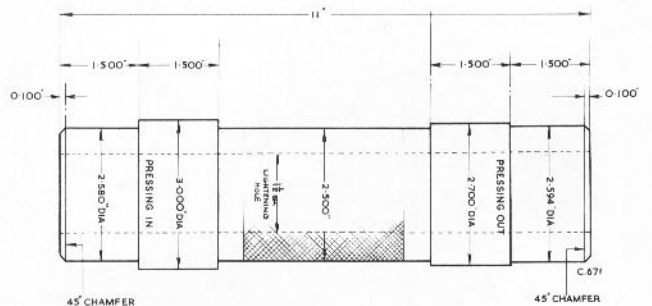
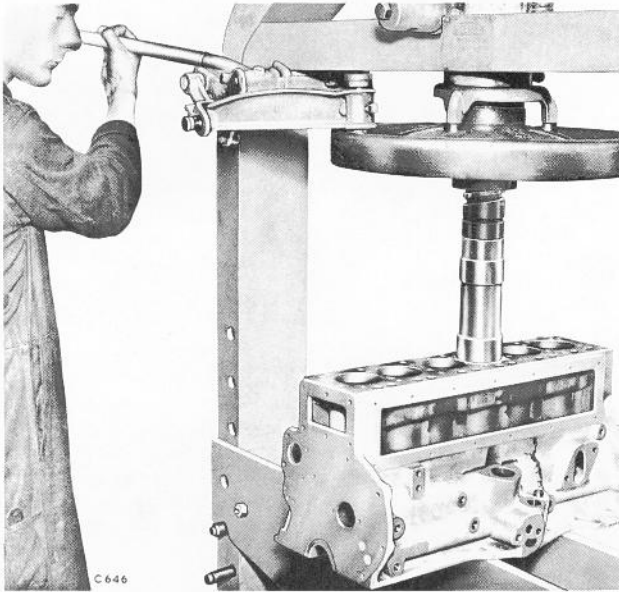

Fig. 9. Spigot for removing liners.
Fig. 10. Removing and refitting cylinder liners.
- (A) Using a hand press only and a special spigot Fig. 9 as illustrated in Fig.10
- (B) By offsetting the bore in boring machine and cutting down the side of the liner until it can be collapsed and taken out. It should be noted that the wall thickness is only approximately .050 inch (1.27 m.m) when new and careful boring is necessary to avoid cutting past the liner into the cylinder block.
Lightly oil the cylinder bore and the external surface of the liner and with the assembly beneath the ram of a press capable of exerting the load given in General Data, press the liner steadily into the cylinder bore until level with the cylinder block face. See Fig.10